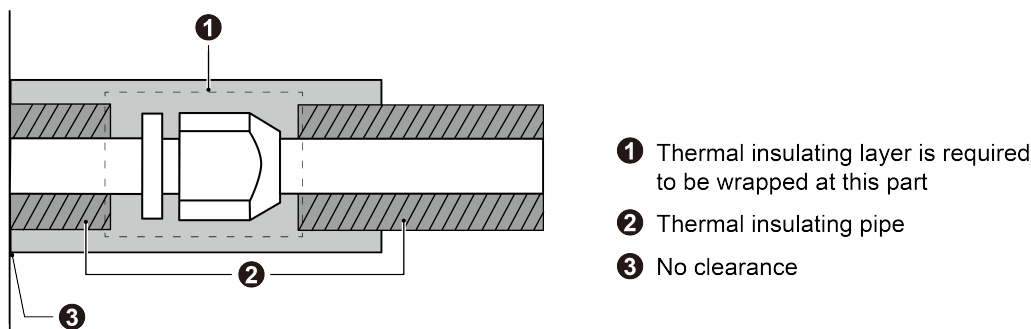
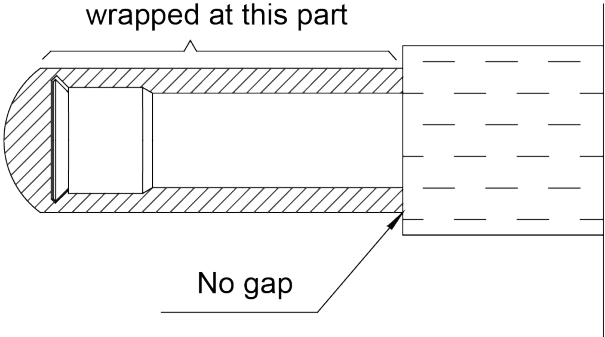
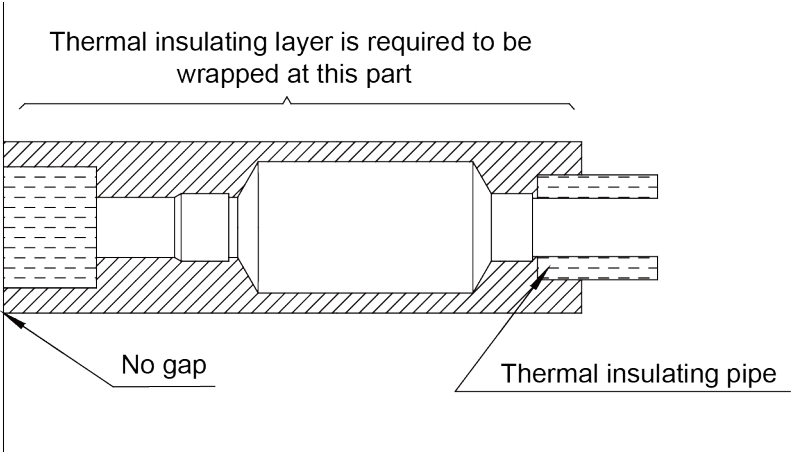

Fig.4.2.13
Fig.4.2.14
Fig.4.2.15
4) Joints of indoor and outdoor unit should be wrapped with insulating material and leave no gap to surfaces of indoor unit and outdoor unit. See Fig.4.2.13 , Fig.4.2.14 and Fig.4.2.15.